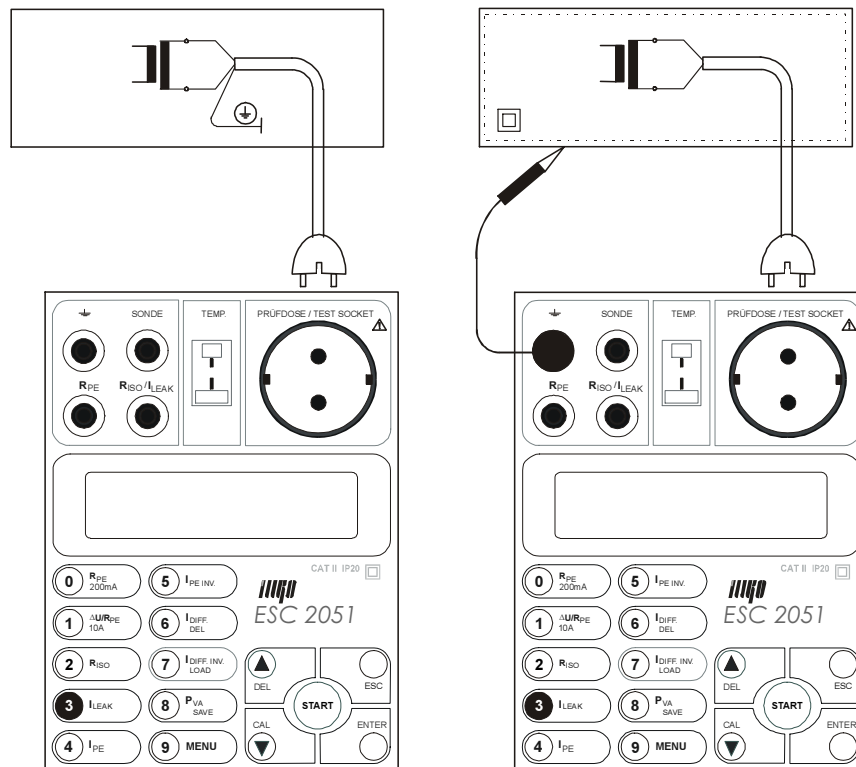

Fig. 8
- Plug in the mains cable of equipment under test to Test socket 1 (Fig. 8).